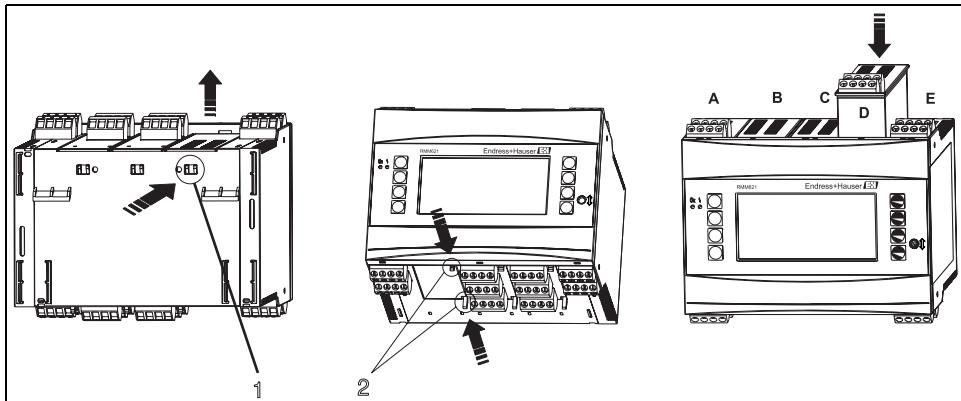

Fig. 4: Installing an extension card (example)
You can equip the device with various extension cards. A maximum of three slots are available in the device for this. The slots for the extension cards are marked with B, C and D (→ Fig. 4) on the device.
2. Remove the blanking cover from the slot (B, C or D) of the basic unit by pressing together the catches on the bottom of the device (see Fig. 4, item 2), while at the same time pressing in the catch on the rear of the housing (e.g. with a screwdriver) (see Fig. 4, item 1). Now you can pull the blanking cover up out of the basic unit.
3. Insert the extension card into the basic unit from above. The extension card is not correctly installed until the catches on the bottom and rear of the device (see Fig. 4, items 1 and 2) lock into place. Ensure that the input terminals of the extension card are on top and the connection terminals are pointing to the front, as with the basic unit.